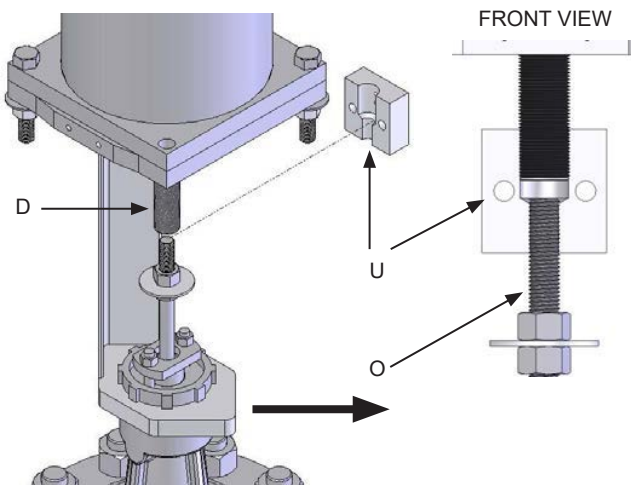

Figure 71. Center of Rod Clevis holes are approximately centered with gap between Stud Extension and Valve Stem (Section of Housing Assembly hidden for clarity)
13. Orient BACK ROD CLEVIS (U) such that holes are approximately centered horizontally with gap as shown in figure 71.